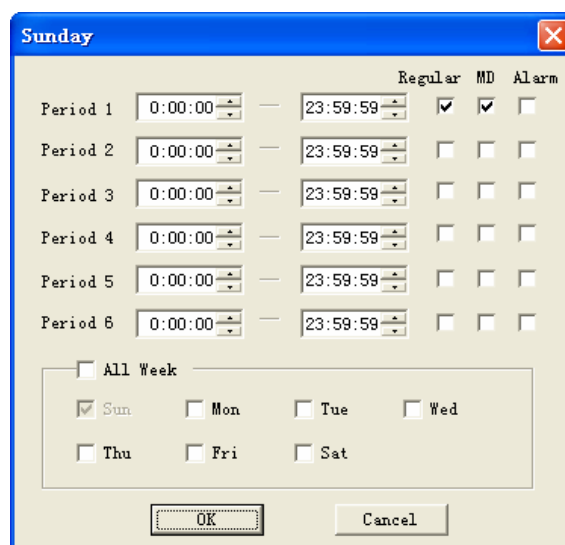

Figure 7-30
- ✧ Period: There are six periods for you to set. Please click set button of the corresponding period. See Figure 7-30.Please note all the setup here shall be in one day. E.g. 00.00 to 24.00.